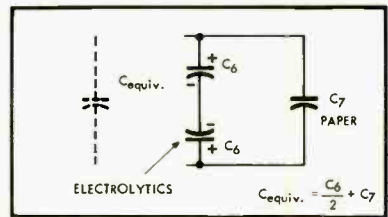

Fig. 6. Two electrolytic capacitors may be used "back to back" aided by a smaller value of paper capacitor.
Paper capacitors are readily secured from radio parts houses. In some cases, paper capacitors are still available from surplus, at reduced prices. It is possible to use electrolytic capacitors, back-to-back¹⁰, as shown in Fig. 6. This is not the best idea, but they work satisfactorily at least for a time. However, a paper capacitor must be added in parallel¹¹ as shown in Fig. 6, to give good high tone response, which is not good with electrolytics alone. If C_6 is the value of each of the two electrolytics, and C_7 that of the parallel paper capacitor, the combination has
Since the paper capacitor is the most expensive, usually C_7 is the starting point, and the required C_6 calculated. For example, if C_7 is 2 μf , and 40 μf is needed. Eq. (3) shows that each C_6 is 76 μf (two are required, see Fig. 6). Exact capacitor values are not required, and 80 μf will be close enough. Furthermore, the actual value of electrolytic capacitors is likely to be as much as 20 per cent off from the rated value, and it would be best practice to measure the capacitance on a bridge. The working voltage rating of the capacitors should be 25 to 50 volts d.c. for 20-watt amplifiers. Any paper capacitor will have more than this rating, but electrolytics are made with lower d-c ratings.